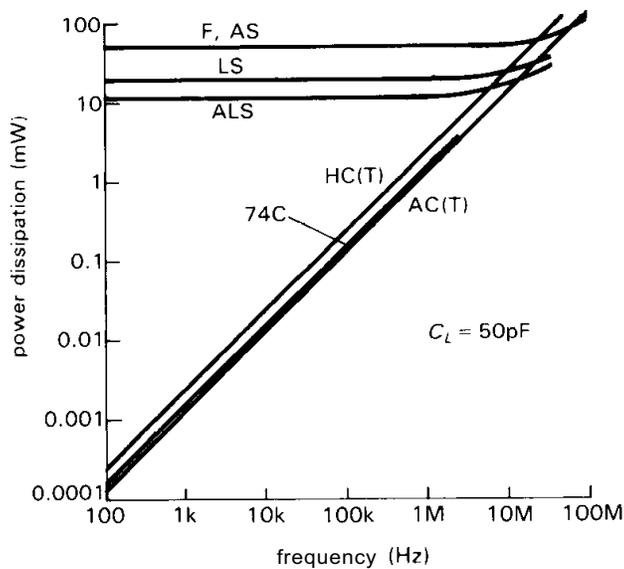

Figure 8.18. Gate power dissipation versus frequency.
**Speed and power.** The bipolar TTL families consume considerable quiescent current, more for the faster families (AS and F); the corresponding speeds go from about 25MHz (for LS) to about 100MHz (for AS and F). All CMOS families consume zero quiescent current. However, their power consumption rises linearly with increasing frequency (switching capacitive loads requires current), and CMOS operated near its upper frequency limit often dissipates as much power as the equivalent bipolar TTL family (Fig. 8.18). The speed range of CMOS goes from about 2MHz (for 4000B/74C at 5V) to about 100MHz (for ACIACT).